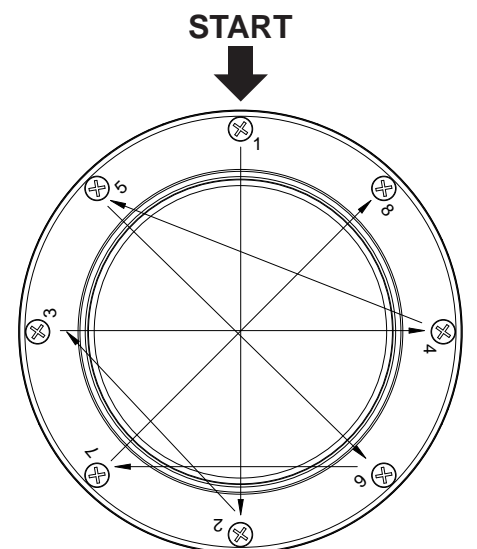

Figure 3
- Once all screws are in place, use the numbers on the trim ring and torque each screw following the torquing sequence. Tighten each screw in pattern 20-25 LB-in (2.3 – 2.8 N-m) See Figure 3.